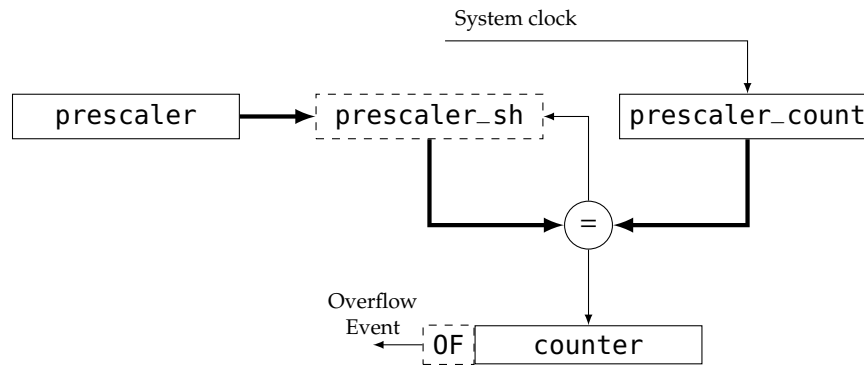

Figure 2.2: The counter unit
The counter unit provides the common counter for all channels of SCCT. Its internal structure is depicted in figure 2.2. The counter register is the heart of the counter unit. Advance of the counter register is controlled by a prescaler. Setting of the prescaler is performed via the prescaler register. Prescaler comparisons are based on the prescaler shadow register `prescaler_sh`. The prescaler count register is incremented each clock cycle. If it reaches the value of the `prescaler_sh` register, an event is generated that has several consequences: (1) The counter register is incremented by 1, (2) a `counter_changed` output signal is set for one cycle to notify connected units about this event, and (3) the current value of the prescaler register is copied to the `prescaler_sh` register. Increment events for the counter register thus are generated each `prescaler + 1` clock cycles. Changing the prescaler register will not immediately affect the counter, but just when the current prescale interval elapses.